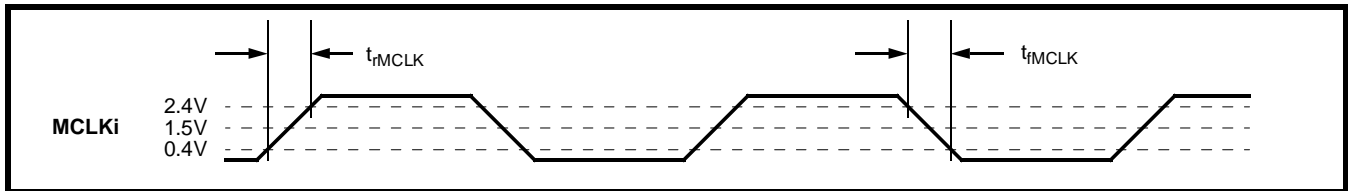

Figure 7 - Master Clock Input
**AC Electrical Characteristics (see Fig. 7)†** - Voltages are with respect to ground ( $V_{SS}$ ) unless otherwise stated.